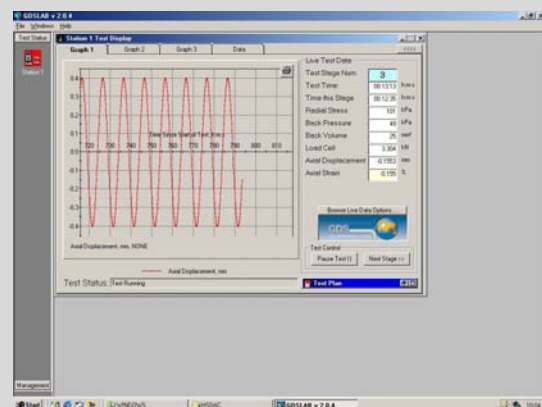

Fig. 3 GDSLAB test display showing dynamic cyclic test in progress
- Provides sinusoidal cyclic control of axial displacement or axial force and rotational displacement/torque (see Fig. 3).